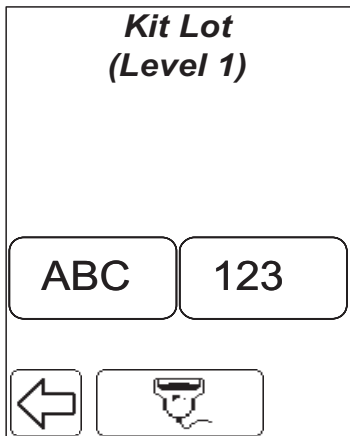

FIGURE 6-18
- j) Press No to return to the current image or press Yes to continue to image FIGURE 6-18.
If testing for the selected level (6) is not complete, FIGURE 6-18 is displayed.